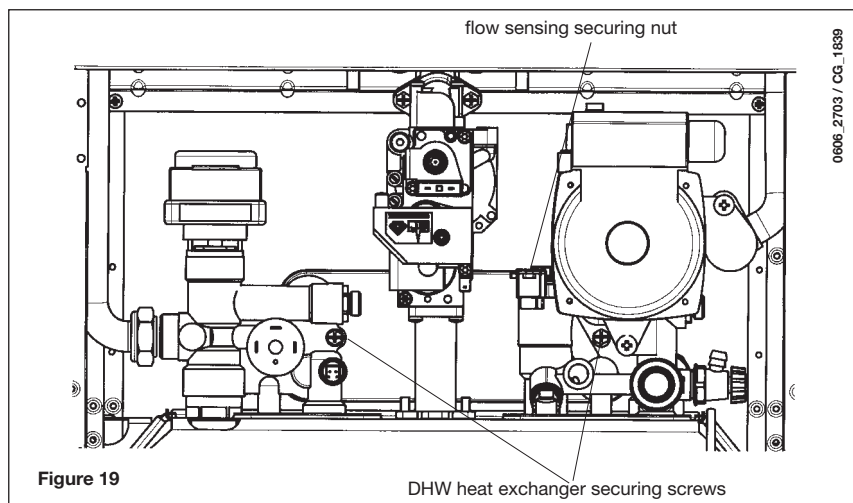

Figure 19
- unscrew the nut on the flow sensing assembly (Figure 19);